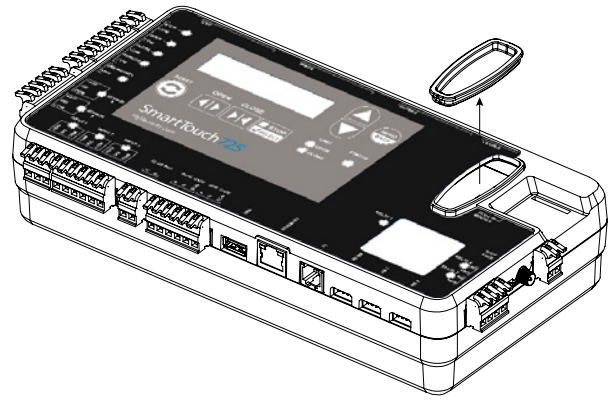

Figure 41. Remove OXI Receiver Cover
2. Remove the rubber plug or OXI receiver from OXI receiver slot (Figure 41).